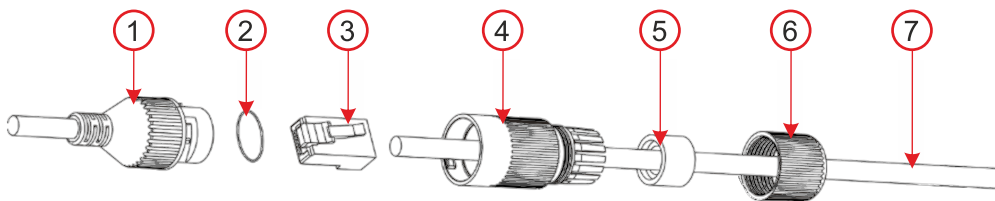

Figure 2: Way to fold the LAN connector waterproof cover
3. Drill holes in the selected location with a Ø 6mm drill bit and fix with dowels from the package. Open the mounting base by removing the screws. Depending on the selected cable feed method – centre or side (6), prepare a hole for running the cables. In case of side installation use the cable grommet (3, 4, 5) for the selected hole – (the cable grommet is included in the packing), use the blanking plug (6) for the unused one.
4. Pull the LAN cable through the back of the socket. Screw the back of the socket onto the selected place on the wall with the three screws provided in the packaging and crimp the RJ-45 connector with crimping pliers (see Fig. 2).
5. Plug the RJ-45 connector to LAN connector. Secure the connection with the waterproof cover (5) with the bayonet cap (3) and screw it tight. If the utilized router or switch does not provide PoE (power over Ethernet), connect the camera power connector to an external 12 V DC power supply (min. 0.5 A).